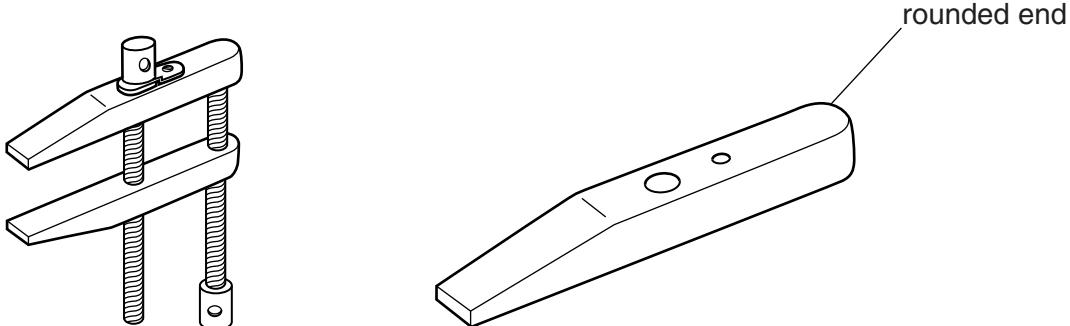

Fig. 1
- 4 Fig. 1 shows a toolmaker's clamp and one of the jaws from it. The jaw is made from 16 mm x 16 mm mild steel bar.
- (c) Complete the table below to show the stages needed to produce the rounded end of the jaw shown in Fig. 1. Name the tools used at each stage.